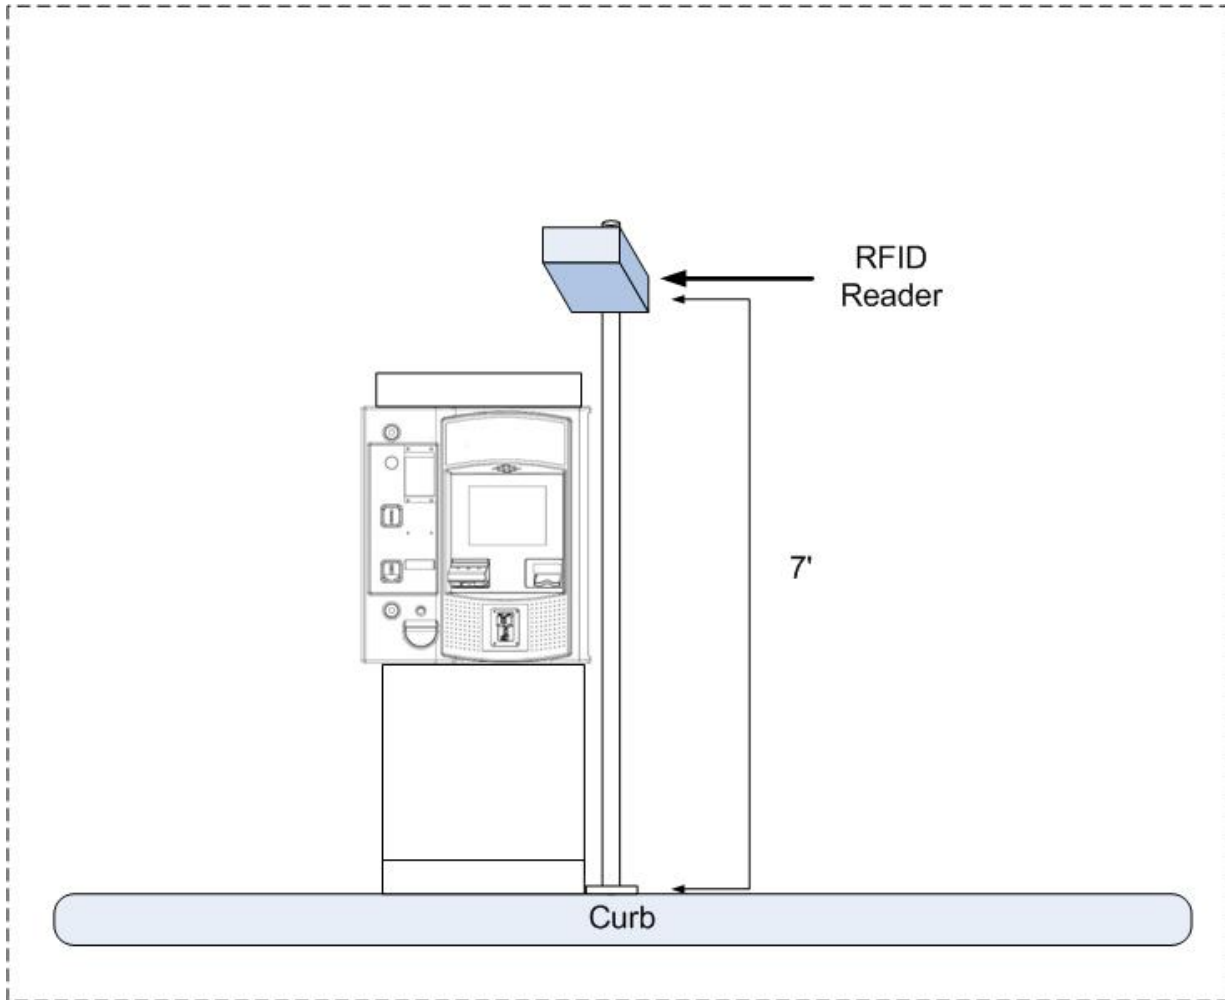

Figure 5. RFID reader Installation - Front View
The reader should be mounted beside the far side of the Unitec entry unit (with the flange flush against the base, as shown in Figure 5) because the proximity sensor on the unit door can be setup to activate the reader. The reader should be mounted on a pole 7 feet above the vehicle lane. The reader may be mounted on any material including metal, but there must be open space in front of the reader and to its sides. There must be no material interfering with the reader's surveillance zone between the reader and the tags' location.
To mount the post, the installer will need to drill (4) holes and use concrete anchor bolts to secure the flange to the concrete, as shown below. The flange should be flush to the side of the entry unit, as shown in Figure 5.